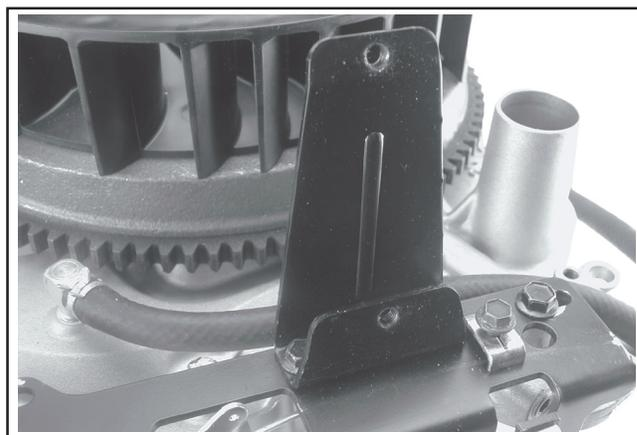

Figure 10-67. Installing Fuel Pump Mounting Bracket.
1. Attach the fuel pump mounting bracket to the speed control bracket with the two M5 screws. Torque the screws to **6.5 N·m (55 in. lb.)** into new as-cast holes, or **4.0 N·m (35 in. lb.)** into used holes. See Figure 10-67.